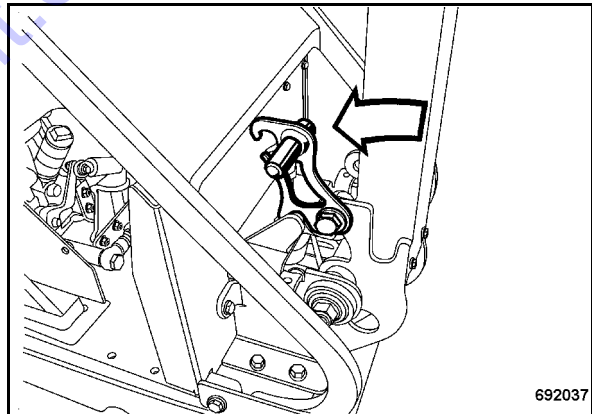

Fig. 30
- Adjust the steering rod upright and engage the locking lever (Fig. 30).